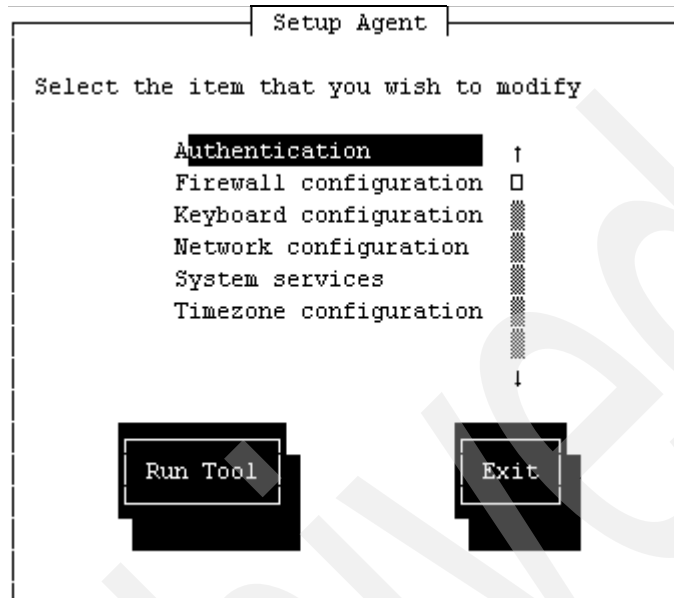

Figure 6-17 Setup Agent panel
24. During boot the Setup Agent window appears (Figure 6-17). You can modify any of the fields if desired or press **Exit** to finish booting the LPAR.